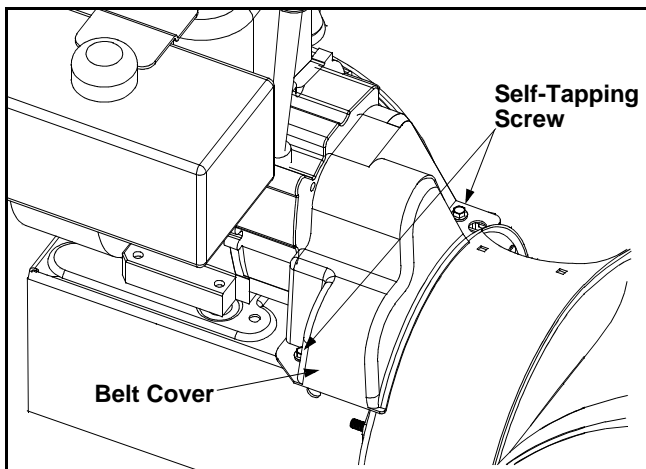

Figure 14
- Remove the plastic belt cover by removing the two self-tapping screws. See Figure 14.